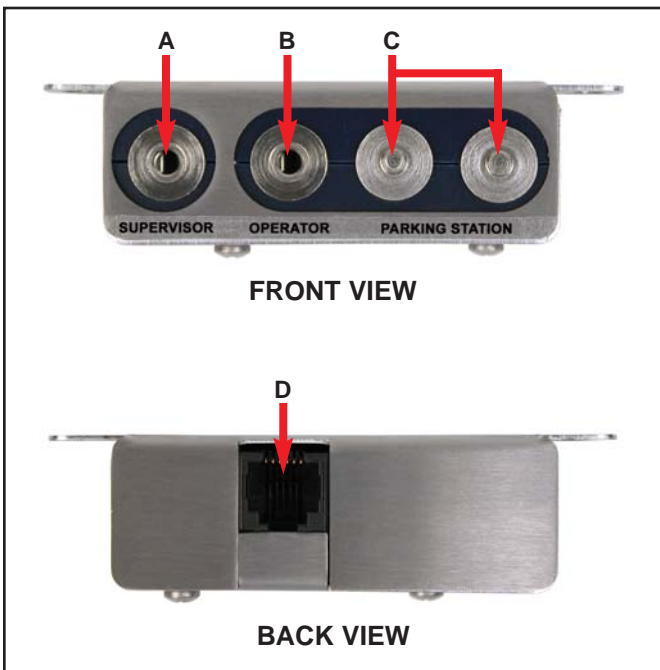

Figure 3. Remote features and components
REMOTE (See Figure 3)
- I. Plug a wrist strap cord, not attached to the wristband, into the monitored jack labeled OPERATOR located on the remote (See Figure 3). This automatically activates the selected operator channel. The corresponding operator LED should illuminate red and the alarm should sound on the monitor.